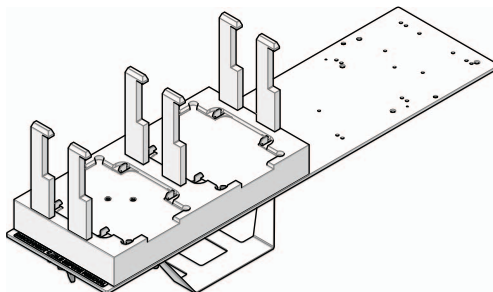

Fig. 6-24 MCA384 active DiTi nest segment front
- ◆ An optional “Front DiTi waste wide” (30042794) can be mounted on the front (refer to 6.3.5, Fig. 6-24)